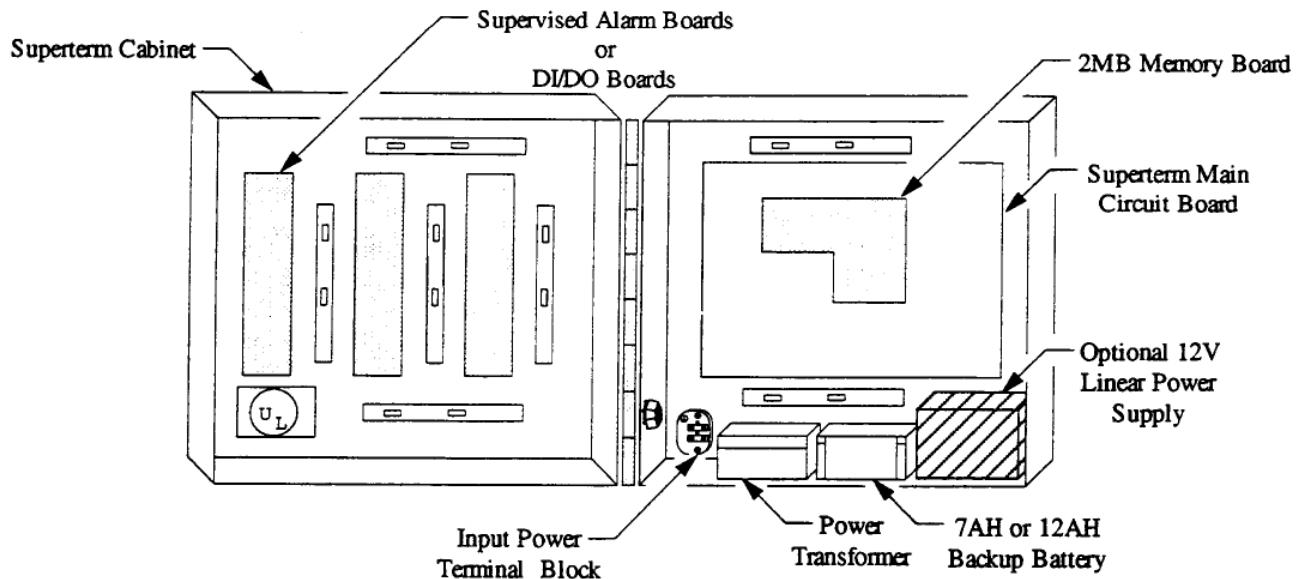

Figure 2 - Superterm Components
- **2 MB Expansion:** An optional 2MB of RAM may be added to the Superterm, providing support for a maximum 145,440 card holders (see Figure 2).
The DI/DO Board supports up to eight, non-supervised inputs and provides 16 relay outputs to devices controlled by twostate signals (see Figure 2).